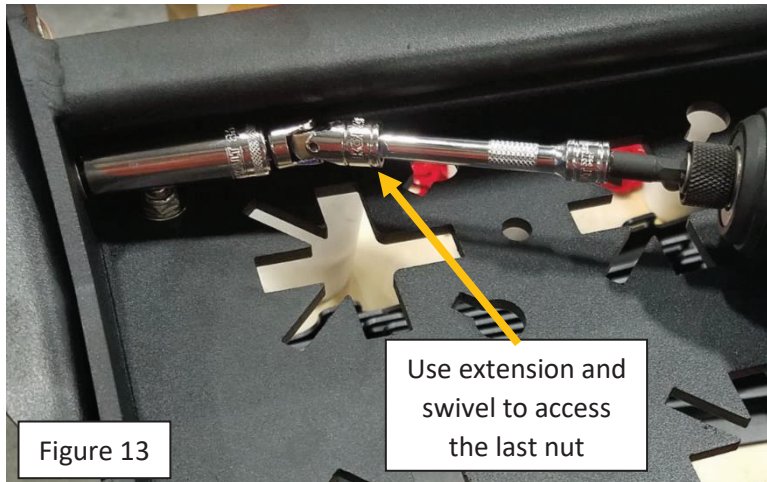

Figure 13
- g. Lastly, use an impact, 7/16" socket and 3" swivel extension to tighten the last nut on the inside corner of the rack as shown in figure 13.